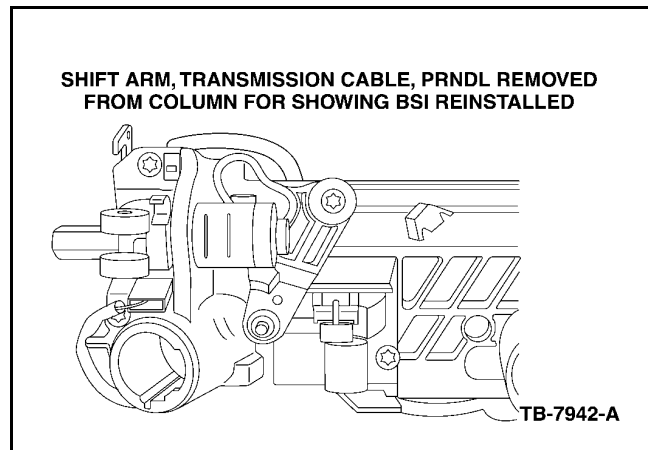

Figure 7 - Article 04-22-12
9. Reinstall the BSI onto the steering column and reinstall fasteners (Figure 7).